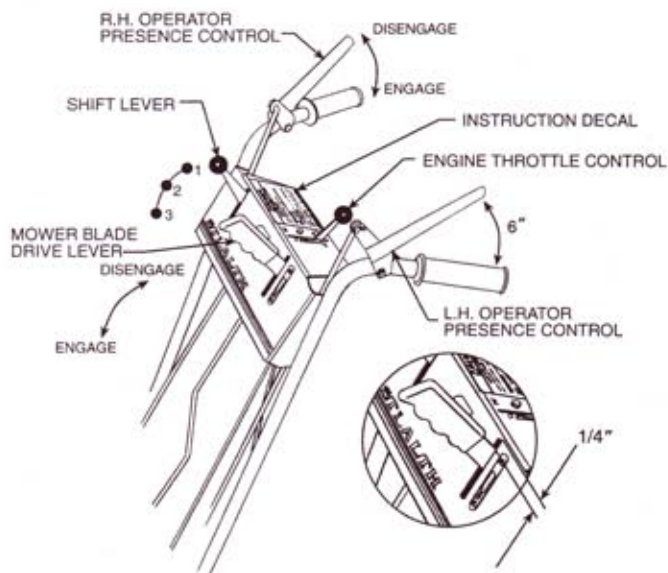

FIG 3 Mower Controls
WHEEL BRAKES are applied automatically when both Operator Presence Controls are up (Disengaged) FIG 3.
1. See that the Blade Drive Lever and both Operator Presence Controls are disengaged, FIG 3.
BLADES AND WHEEL DRIVES FIG 3.
1. Be sure Mower Blade Drive Lever and Operator Presence Controls are disengaged. FIG 3
1. Be sure Blade Drive Lever and Operator Presence Controls are disengaged, FIG 3.
WHEEL BRAKE ADJUSTMENT FIG 3 & 12
BLADE DRIVE LEVER ADJUSTMENT FIG 3, 11 & 13